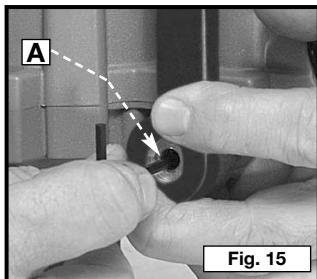

Fig. 15
2. Insert 1/8" hex wrench (A) Fig. 15 (not furnished) into adjustment screw and turn counter-clockwise approximately 1/2 turn.